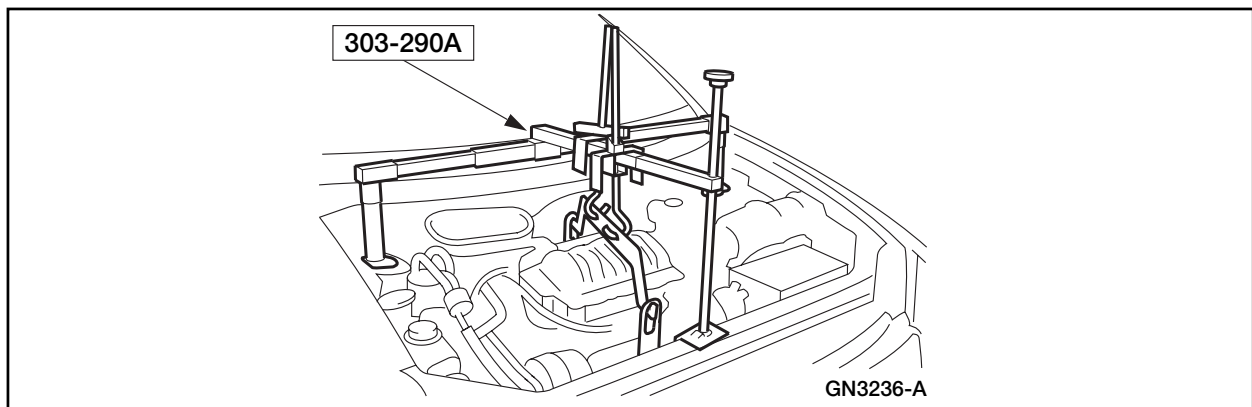

FIGURE 3
4. Install the Three Bar Engine Support Kit special tool 303-290A. See Figure 3.